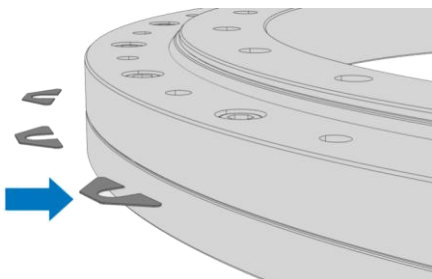

Fig. 25: Inserting the adjustment shims
5. Distribute the adjustment shims (Fig. 25) between all retaining and attachment screws of the connecting structure. Here, ensure that the adjustment shims are attached in a manner that allows problem-free insertion of the attachment screws.